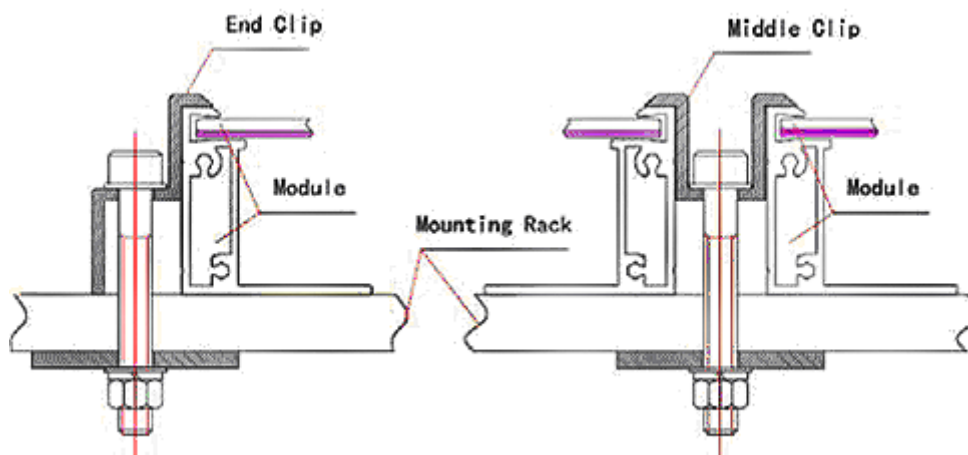

FIG 8 Clamping mounting method
(1) Frame module
- ✚ Note that long sides should always be mounted in a symmetric position respect to the center. Recommended torque should be 8 Newton-meters. Please see details in FIG 8.